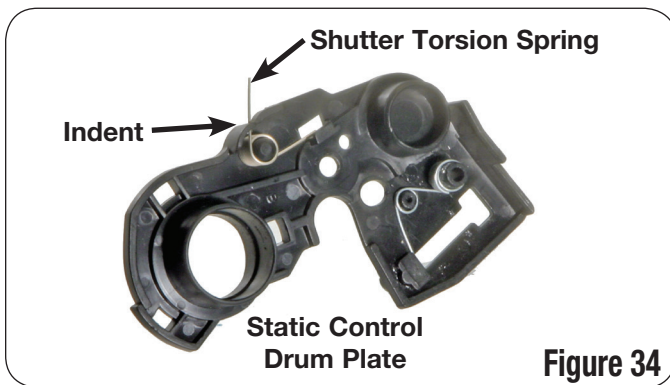

Figure 34
36. With the drum shutter in the closed position, install the new Static Control universal drum plate with OEM drum shutter torsion spring ensuring that the drum shutter torsion spring is in the correct position (in the post with one arm behind the indentation, the other latched behind the tab) as shown in Figure 34.